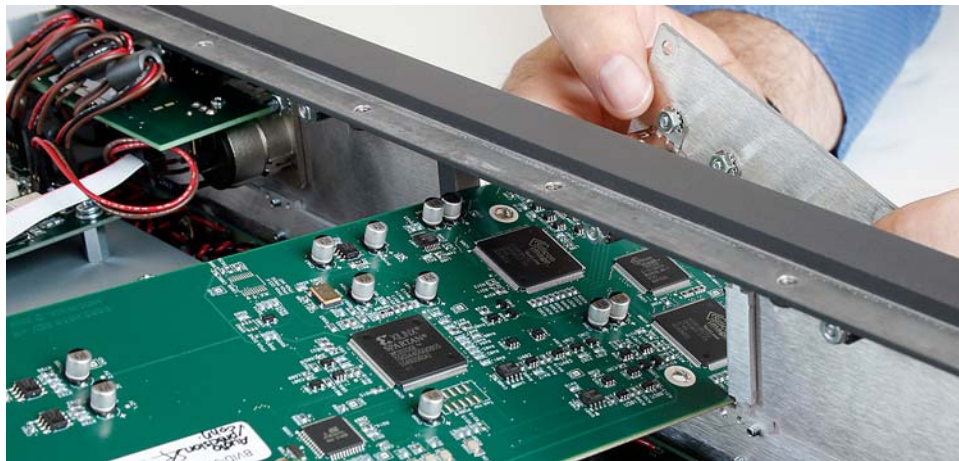

Figure 4 Removing the old HDMI module
5. Slide the old HDMI module out the front of the instrument. Note that it will be necessary to tilt it, as shown in figure 4, to clear the front panel.
6. Insert the new HDMI module through the front panel, tilting it as shown in figure 4. Push the end of the card into the connector, and replace the four circuit board screws and the four front panel screws.